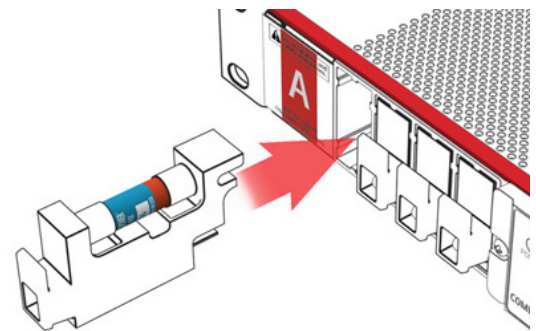

Figure 14. TPA fuse installation
Step 1. Ensure that connected loads are in the off position, then firmly insert a TPA fuse of sufficient ampacity into the position to be fed (see Figure 14).